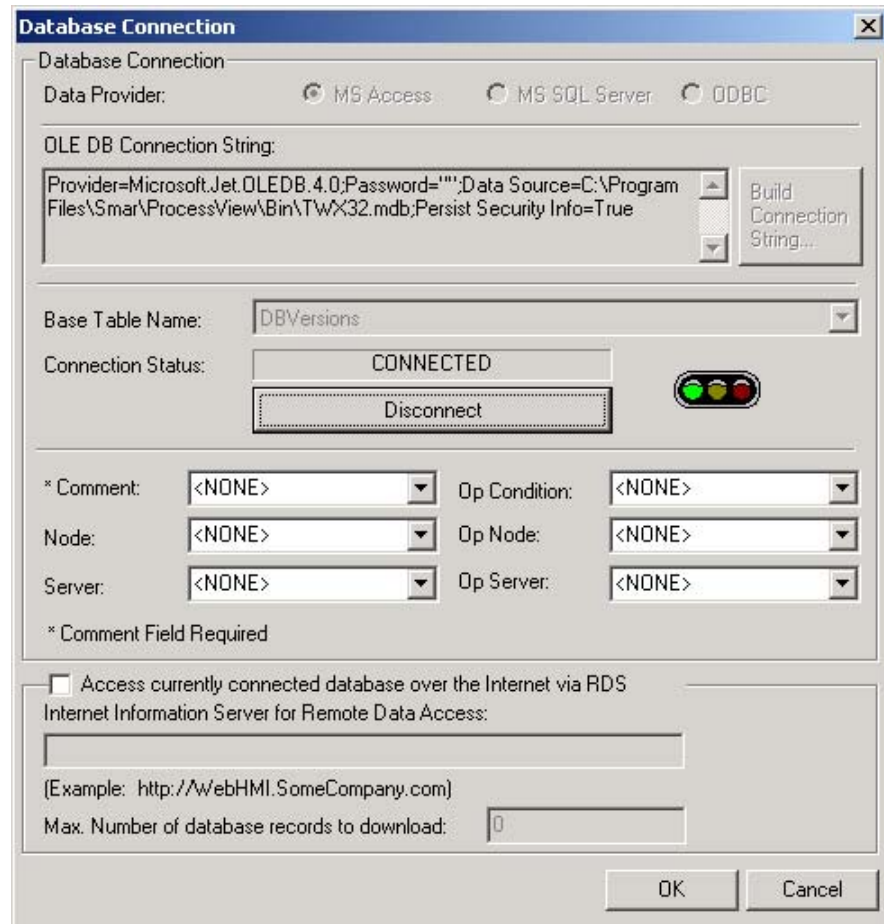

Figure A.7. Database Connection
- Click the **Connect** button to connect to the database. The traffic light icon changes to green when the connection is successful, as shown in **Figure A.7**.